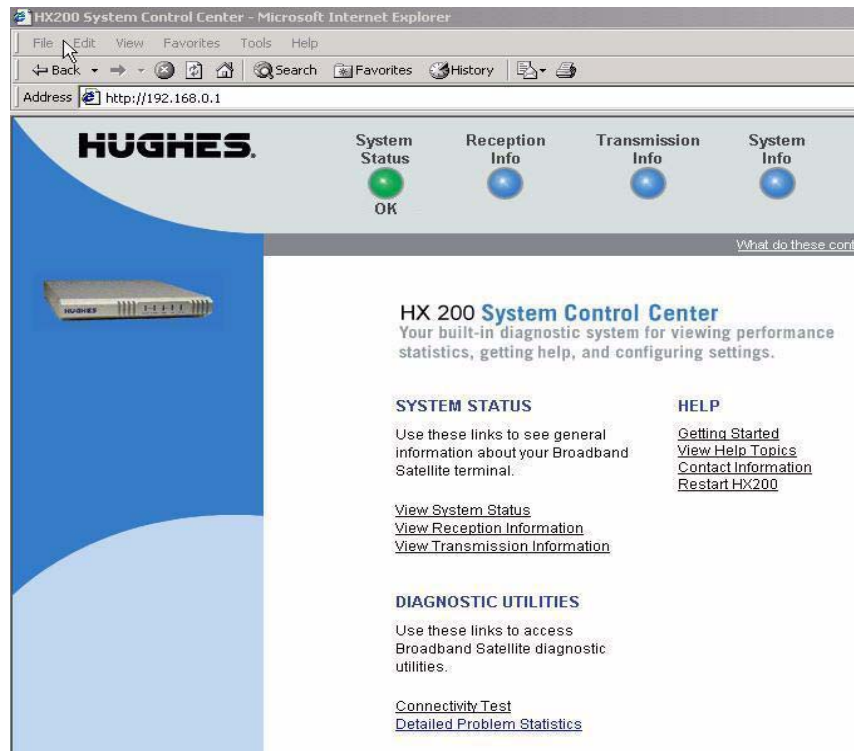

Figure 42: System Control Center home page
3. Press **ENTER**. The System Control Center home page appears as shown in Figure 42.